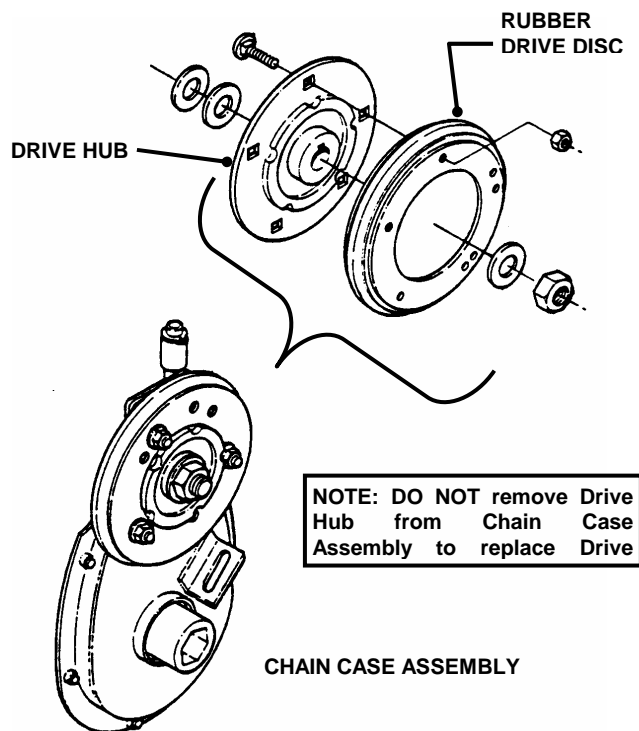

FIGURE 4.12
2. Remove the three nuts that secure rubber drive tire to the chain case. Remove drive tire. See Figure 4.12.
3. Install new rubber drive tire. Reinstall the three nuts. Torque to 15 to 25 ft. lbs. See Figure 4.12.